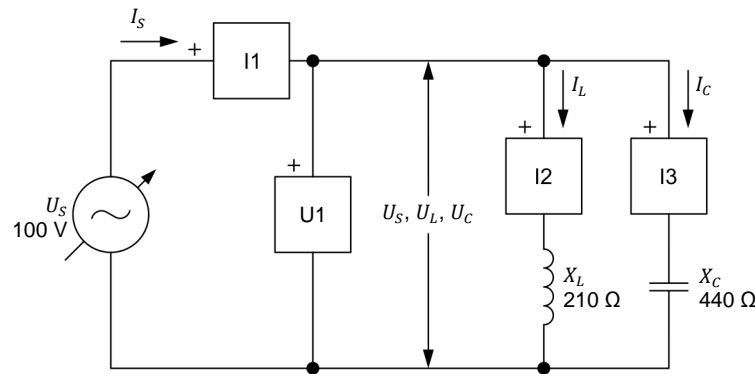

Figure 3-14. Parallel ac circuit containing an inductor and a capacitor, and set up for measuring the reactive power in each component.
4. Set up the circuit shown in Figure 3-14.